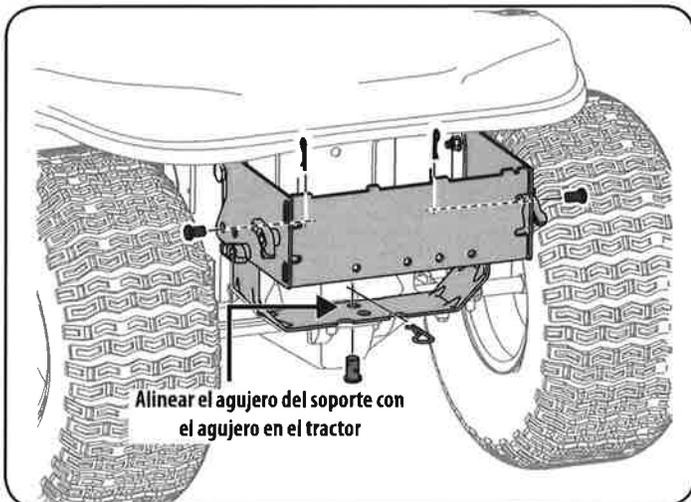

Figura 34
2. Install the clevis pin (711-0309A) from hardware pack 689-00328A into the tractor's hitch and secure with a hairpin clip (714-0117). See Figura 34.